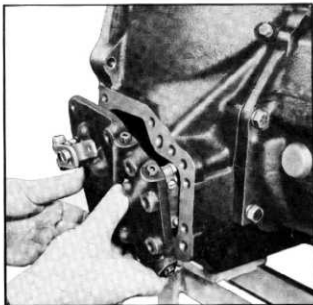

Fig. 170—Removing Low and Drive Valve Body
4. Remove transmission low and drive valve body assembly (fig. 170). Remove gasket.